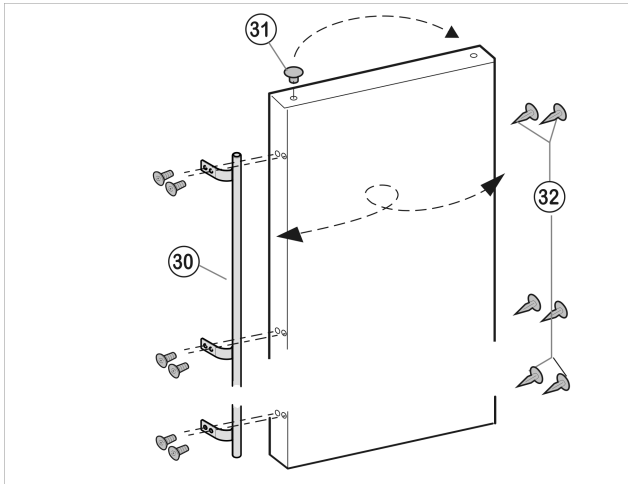

Fig. 22
- Pull plugs *Fig. 22 (31)* out of the door bearing bushes and move them to the other side.
- Detach the door handle *Fig. 22 (30)* and plug *Fig. 22 (32)* and move them to the opposite side.